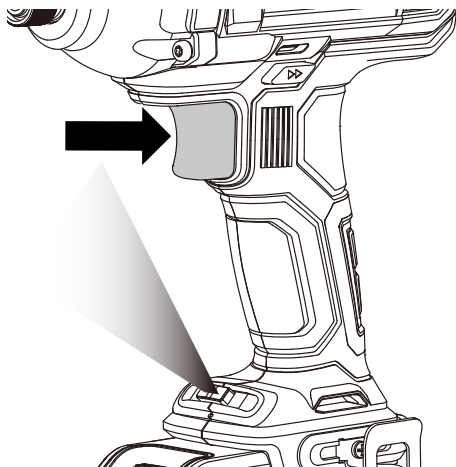

Figure 7
3. ON/OFF SWITCH (SEE FIG. 7)
4. USING THE LED LIGHT (SEE FIG. 7)